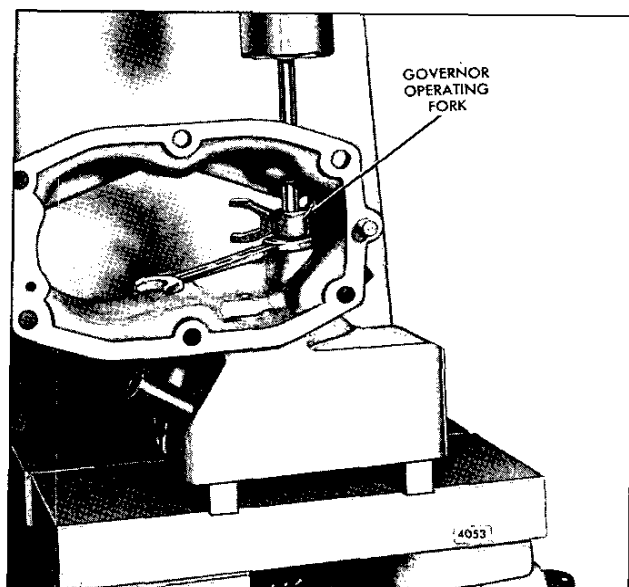

Fig. 9 – Removing Governor Operating Fork
9. Place an end wrench between the operating fork and the governor housing; also place a rod on the end of the operating shaft and press the shaft out of the fork (Fig. 9).